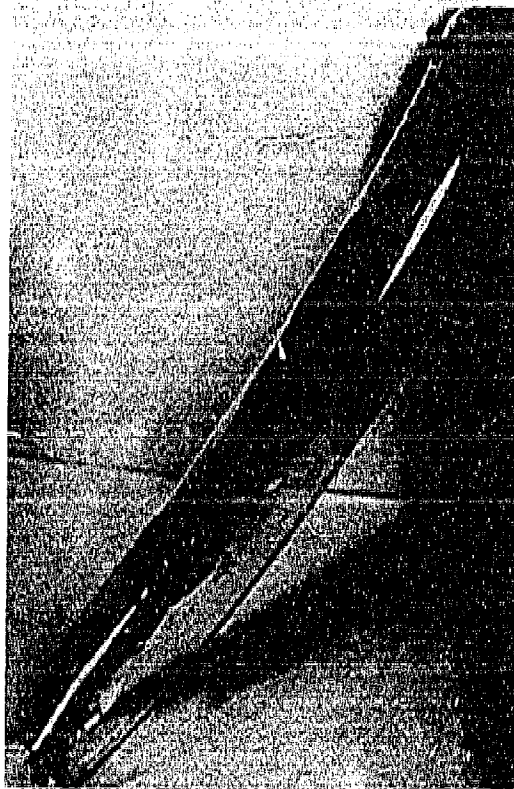

Figure 4-3. Inflated pneumatic splint applied on a patient's arm.
(5) A pneumatic splint (fig 4-3) is inflatable and made of transparent plastic. You blow air into it by mouth to get the necessary rigidity. Do not use any other means for inflation (such as a tank of compressed air). The splint requires no padding and it can be inflated or deflated as desired. The splint should not be inflated and left on the patient more than 30 minutes at a time. To do so will interfere with peripheral circulation. Reduction of peripheral circulation for a long time causes tissue anoxia, which in turn results in damaged or necrotic tissue. Tissue damage is proportional to the duration of diminished peripheral circulation and the degree of tissue anoxia. Therefore, if the patient must wear a pneumatic splint for an extended time, partially deflate it every 20 to 30 minutes for a few moments to reestablish peripheral circulation if it appears that the blood supply to the extremity has been impaired. Do not use these splints unless you have time to check the patient every few minutes.